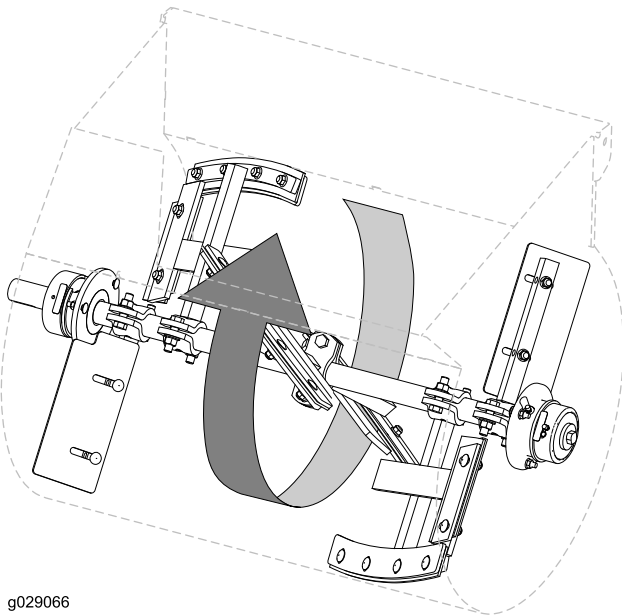

Figure 44
1. Rotate a paddle from the left row of paddles around the drum and locate at the interior of the drum the smallest distance between the drum and the wiper of the paddle (**Figure 44**).